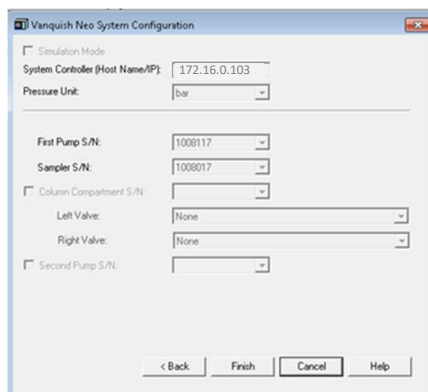

Figure 22: Vanquish Neo system and connected modules
- 4) After the IP address is entered and the system is successfully connected to the instrument control PC, the configured modules of the Vanquish Neo system are displayed (Figure 22).